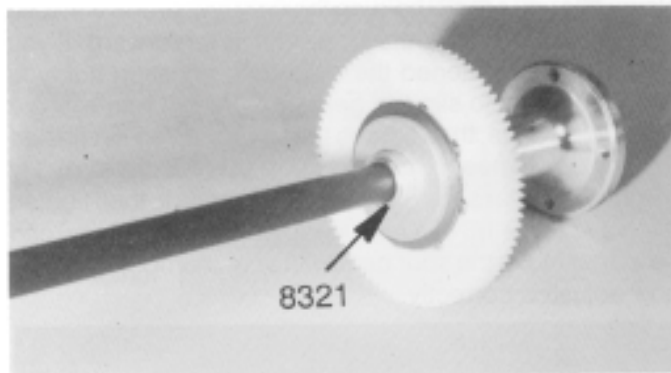

Fig. 68
□ **Figs. 67 & 68** In bag 7 you will find two #8321 rear axle spacers. The spacers have a stepped surface on one side which is designed to ride against the inner race of the #897 bearings. Install one of the rear axle spacers onto the graphite portion of the rear axle with the stepped side facing away from the #8211 wheel hub/diff spacer (fig. 68). Now slide the rear axle through the bearings in the rear pod assembly from the right side.